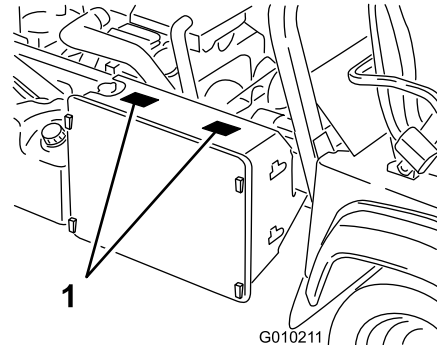

Figure 20
2. Affix the no-step decals to the top of the radiator as shown in Figure 20.